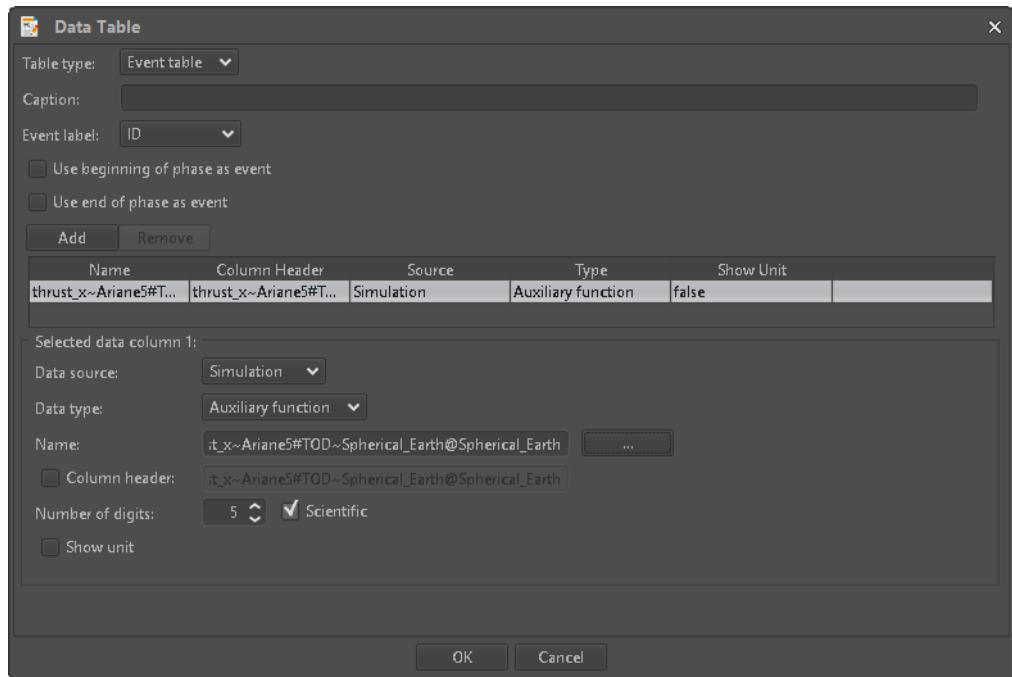

Fig. 8.19: The dialog used for adding event tables
- The *Event table* behaves a bit different than the *Data table* and has therefore a slightly different dialog. This dialog is shown in Fig. 8.19.